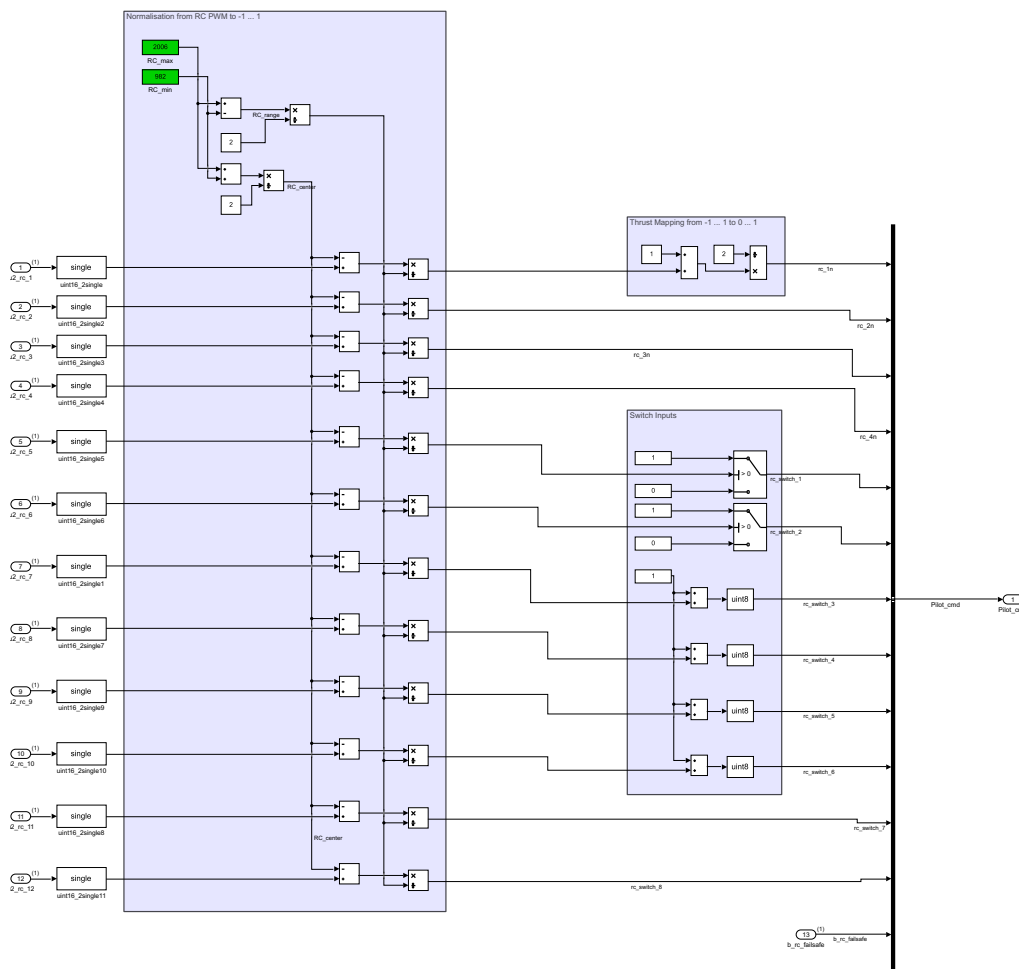

Figure 23: Subsystem RC\_Input\_Normalisation.
**RC\_Input\_Normalisation Subsystem:** The first subsystem (see Fig. 23) normalizes the PWM signal inputs from the remote control. The remote control channels must be allocated manually in the remote control menu (see Sec. 1.2). Here, the first 4 channels of the remote control are configured to control the actuators in the following order: